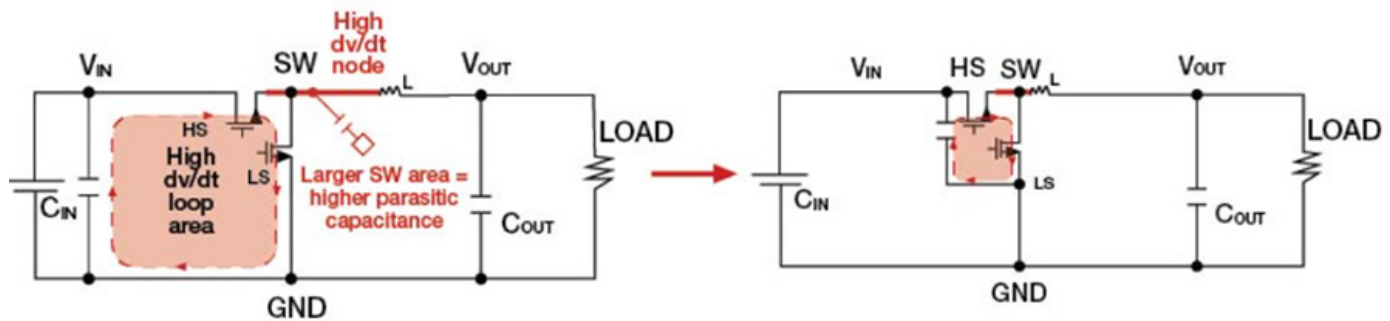

Figure 7. Effects of a larger SW area/trace length, resulting in more parasitic capacitance and unstable regulation.
- At these speeds, a clean power source needs to be used for all digital ICs involved. This includes using higher-quality ceramic capacitors like MLCCs that are good at reducing local EMI, decoupling noise and reducing voltage ripples. Use linear regulators whenever possible, but if incorporating a switching supply, make sure to source a quality, low-noise supply and implement a good practice layout for the switching paths to minimize board parasitics and transients (**Figure 7**). Also, be generous with ferrite beads, especially if a power source is coming from an off-board source.